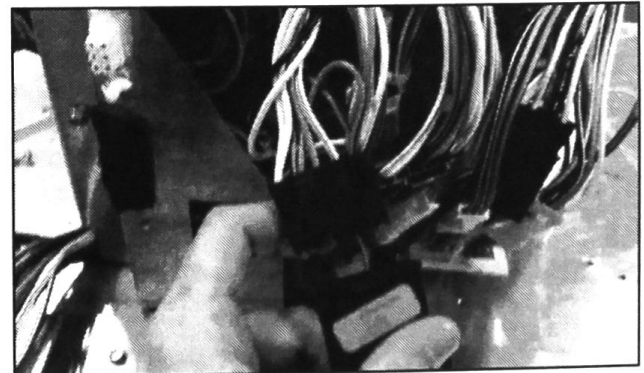

FIGURE 6
8. Disconnect door switch connection shown in *Figure 6*. The harness will connect to both door switches.